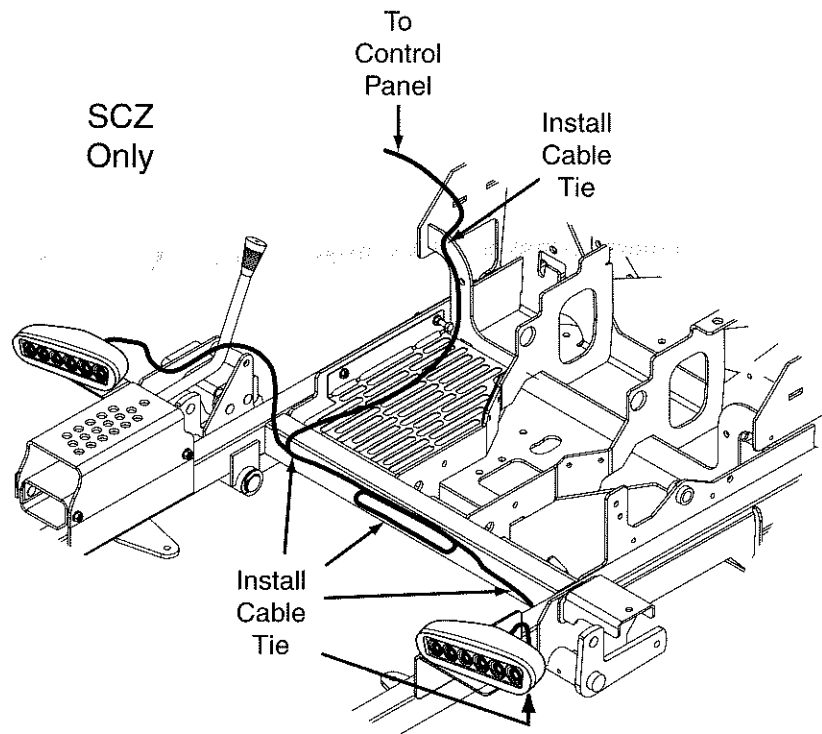

Figure 5. SCZ Models - Route Wire Harness and Connect to Lights
9. **For SCZ Models Only** - Route the light kit wire harness as shown and connect to the LH and RH light assemblies. Using the cable ties provided with this kit, secure the accessory wire harness away from moving or hot components that could cause damage. See Figure 5. Proceed to Step 11.